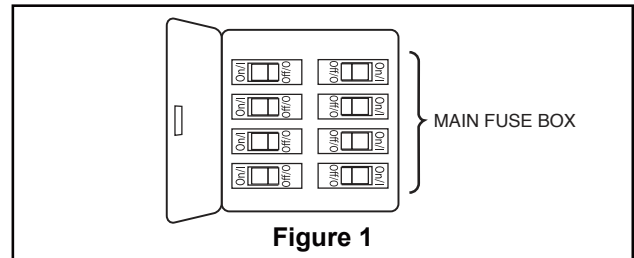

Figure 1
- 1. Remove one of the two shoulder screws in the hanger bracket. Loosen the second shoulder screw without fully removing it. Assemble canopy by rotating key slot in canopy over shoulder screw in hanger bracket. Tighten shoulder screw. Fully assemble and tighten second shoulder screw that was previously removed. (Figure 1)